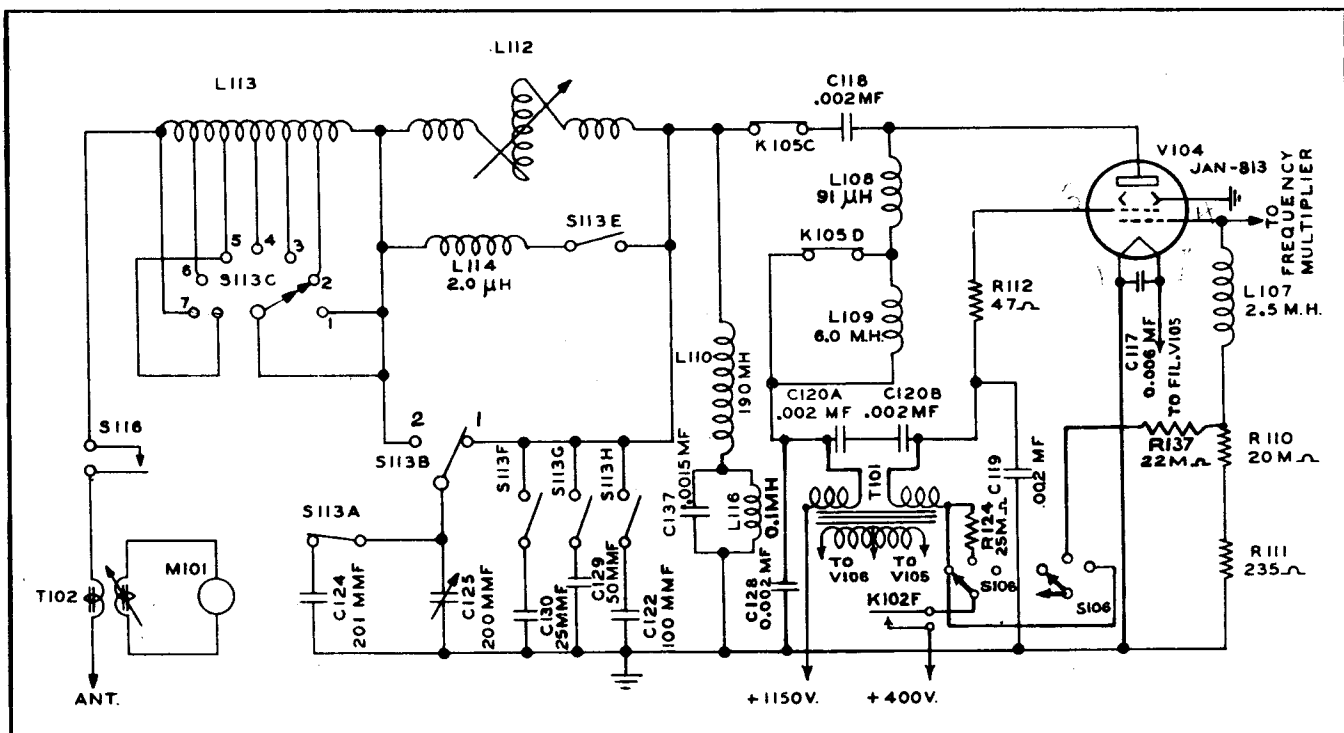

Figure 4-13. Power Amplifier and High Frequency Output Circuits
(6) **POWER AMPLIFIER AND OUTPUT NETWORK.**—The power amplifier stage employs a Type JAN-813 beam pentode tube and operates as a straight amplifier at all frequencies. When the transmitter is operating in the frequency range 200 kc to 600 kc, the output of the l-f oscillator is capacitively coupled to the grid of the power amplifier (see fig. 4-13). When the transmitter is operating in the frequency range 2.0 mc to 6.0 mc the output of the first frequency multiplier tube, V102, is coupled to the grid of the power amplifier tube through first multiplier range switch S102 contacts and capacitor C116. When the transmitter is operating in the frequency range 6.0 mc to 18.1 mc the output of the second frequency multiplier tube, V103 is coupled to the grid of the final amplifier tube, V104, through second multiplier range switch contacts S103 and capacitor C116. When l-f operation has been selected output circuit selecting relay K105 operates to connect the plate circuit of the final amplifier tube, V104, to external loading coil terminal J117. With output circuit selecting relay K105 in the normal unoperated position the plate circuit of final amplifier tube V104 is connected to the output network that is incorporated in the transmitter proper. Voltage for the screen of power amplifier V104 is supplied by the low voltage section of the dynamotor. This voltage is applied through relay contacts K102F when the keying relay, K102, is operated. When the power level switch S106 is in the "CALIBRATE" position, screen voltage for V104 is removed and screen is connected to the control grid circuit through resistor R-137. This connection permits negative voltage on control grid to be applied to screen grid and thereby cuts off output from the power amplifier stage. If power level switch is in the "TUNE" position, screen voltage on V104 is reduced through series resistor R-124 to protect the tube from overload when transmitter is tuned. Full screen voltage is applied to V104 when switch S106